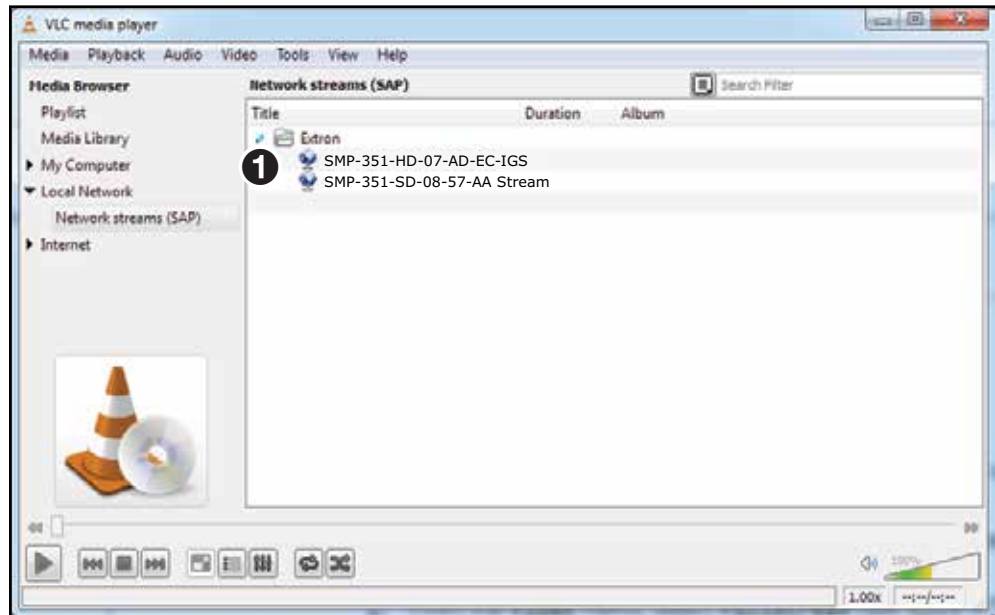

Figure 105. VLC - Select a Stream
4. VLC populates the playlist with all streams that contain SAP information. If a folder is shown, open it to view the SAP streams inside (see figure 105, ❶)).